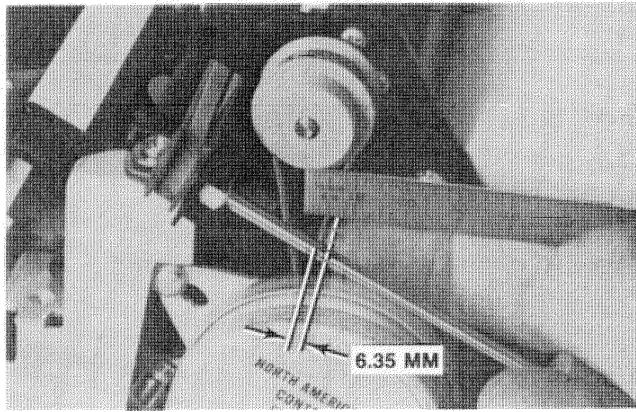

Figure 6-7. Adjusting Paper-Advance Belt
- b. Slide the motor until the belt deflects $1/4 \pm 1/64$ inch (6.35 \pm 0.4 millimeters) when you press midway on the rear portion of the belt. (See figure 6-7.)